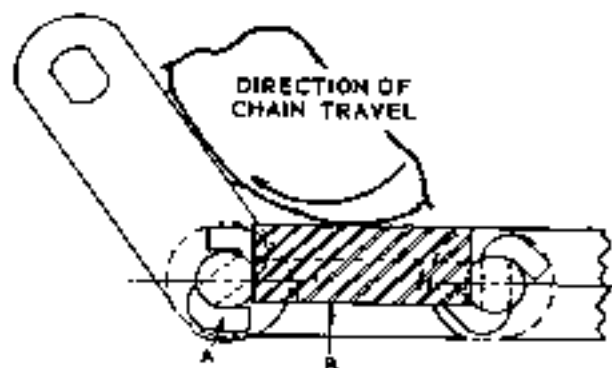

FIGURE G-9
NOTE If the bar feeder chain assemblies are removed, or as in the case of installing a new assembly, be sure that they are installed in the direction of chain travel of the foot and head shaft as shown in Figure G-9. If the chain assemblies are not installed properly, the keeper pins (A), will interfere with the feeder bars (B), and be broken.